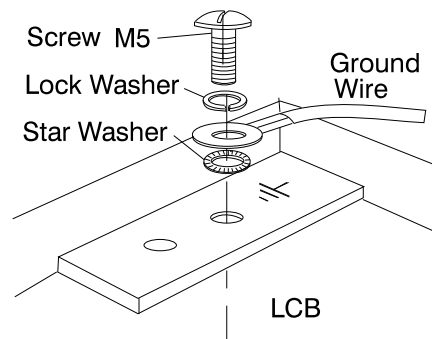

Figure 2-4. Standard Connection
**Screw:** 5 mm of diameter, length from 6 mm to 10 mm (refer to Figure 2-4). **Connection of Ground Wire to LCB**